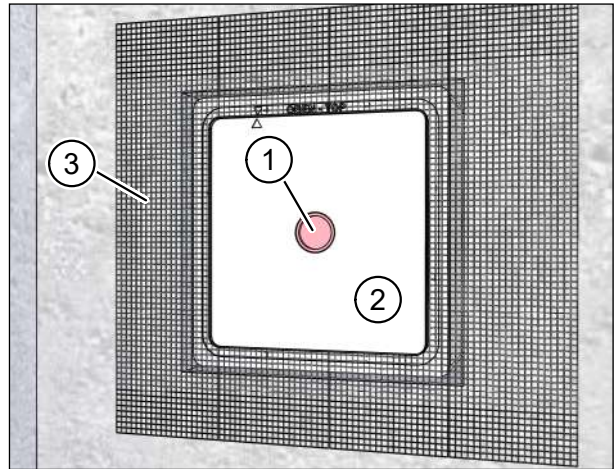

Fig. 19: Plastering the installation kit on the inside
- ▶ Make sure that the signal cover (item 1 in Fig. 19) is seated in the plaster cover (item 2 in Fig. 19).
- ▶ Apply the plaster scrim M-WRG-PG (item 3 in Fig. 19) to the installation kit and the solid wall.